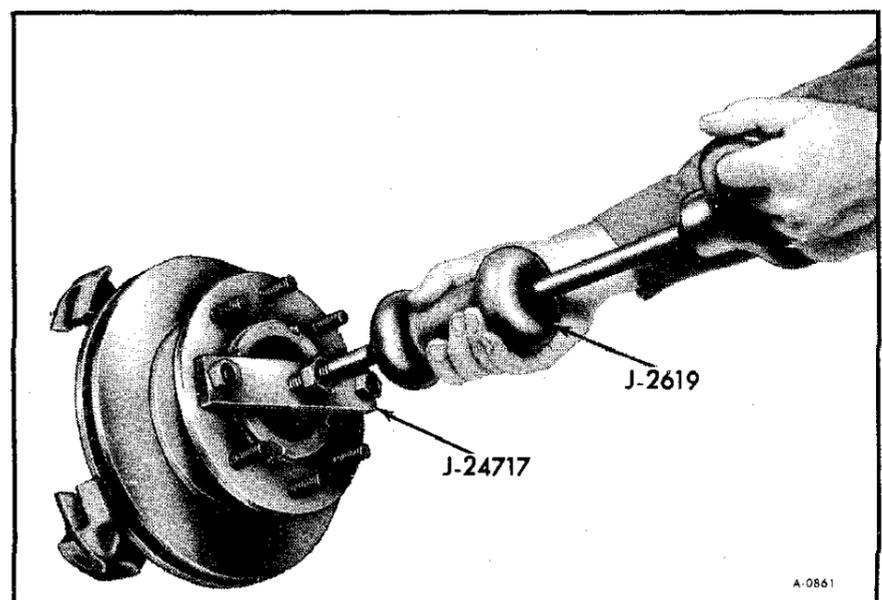

Figure 6—Hub and Disc Removal
9. Position Tool No. J-24717 on hub as shown in figure 6.
10. Operate slide hammer Tool No. J-2619, until assembly is free of knuckle. See figure 6.